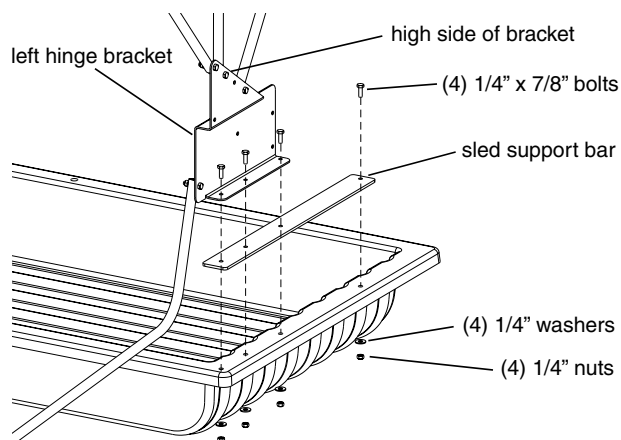

FIGURE 1A (left side shown)
1. Attach sled support bar (69677) and the left hinge assembly (69309L) to the upper lip of sled using (4) provided 1/4-20 x 7/8" bolts, nyloc nuts and washers. **SEE FIGURE 1A.**
NOTE: Be sure hinge assembly is orientated as shown in **FIGURE 1A**, with high sides of hinges placed to the front of sled and hinge poles to the inside.